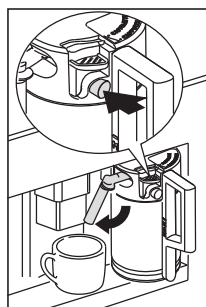

Fig. 33
- ▶ Position the milk spout as shown in Fig. 33 and then place a sufficiently large cup under the coffee and milk spouts.
- ▶ Place a recipient under the milk spout (Fig. 33).
- ▶ Press the CLEAN button on the lid (C3) (see page 8) and hold down for at least 5 seconds (Fig. 33) to start the cleaning function.